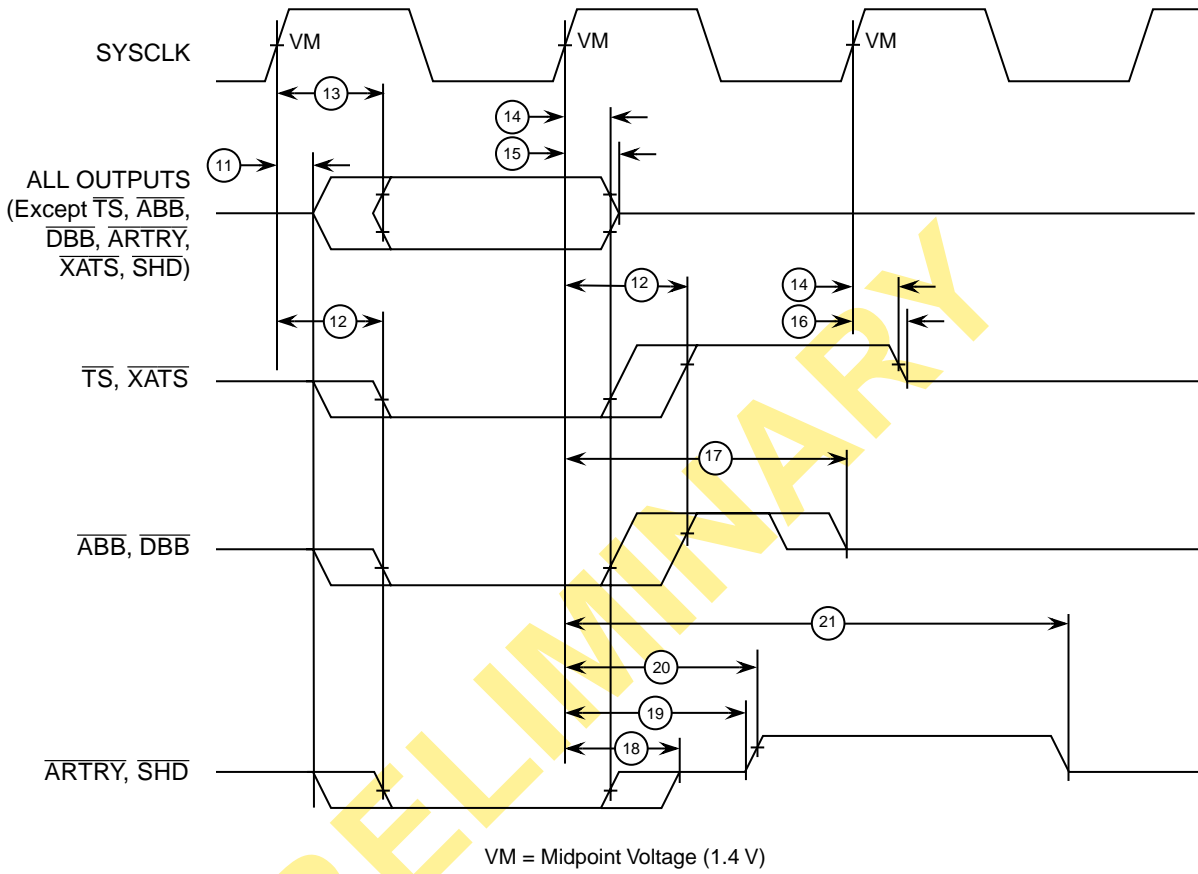

Figure 4. PowerPC 604e Microprocessor Output Timing Diagram
The 604e adds a Fast Out output mode which will allow for increased system bus frequencies. Table 8 provides the output AC timing specifications for the 604e (shown in Figure 4) operating in 604 Compatibility mode and Fast Out mode. 604e Fast Out mode is selected by driving the L2_TSTCLK pin to GND during assertion of $\overline{\text{HRESET}}$. When Fast Out mode is enabled, the output valid and output hold times are reduced.
1. All output specifications are measured from the 1.4 V of the rising edge of SYSCLK to the TTL level (0.8 V or 2.0 V) of the signal in question. Both input and output timings are measured at the pin (see Figure 4).
Figure 4 provides the output timing diagram for the 604e.